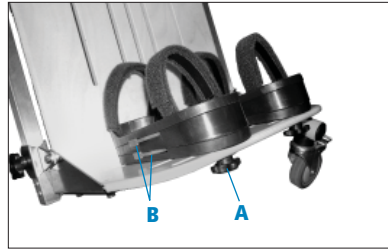

Figure 8a
To adjust sandals, loosen knobs (A), move sandals to the desired position, and tighten knobs. Sandal height can be built up or a toe/heel angle achieved by using one or more wedges (see Figures 8a and 8b).